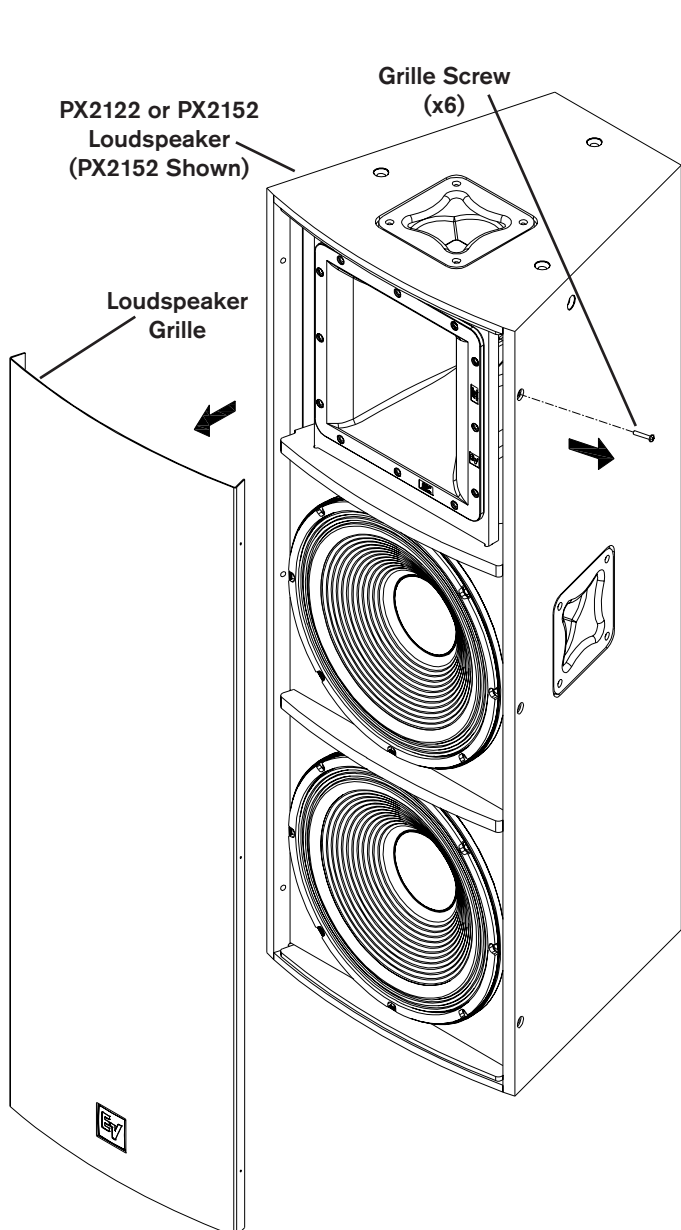

Figure 2: Removing the Grille from the Enclosure
1. Remove the (6) screws that attach the grille to the enclosure (Figure 2).
5. Reattach the grille using the (6) screws (reverse of Figure 2).